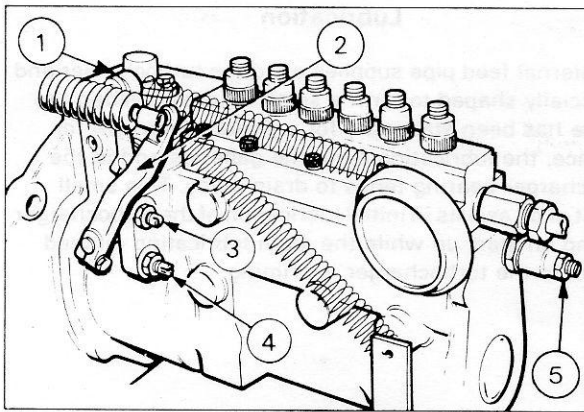

Fig. 36 - Speed Adjustments
1. Run the engine until normal operating temperature is reached, then adjust the idling speed stop screw (Fig. 36) to give the idling speed recommended by the equipment manufacturer. Clip the throttle to ensure a consistent return to this setting.
2. Where an idling damper is installed, remove the cover at the front of the pump (Fig. 36), loosen the locknut and unscrew the damper screw approximately five turns.
1. With the engine running at normal operating temperature, with no load applied, operate the throttle control to hold the governor control lever against the maximum speed stop. Adjust the stop screw (Fig. 36) to give the specified no-load speed.